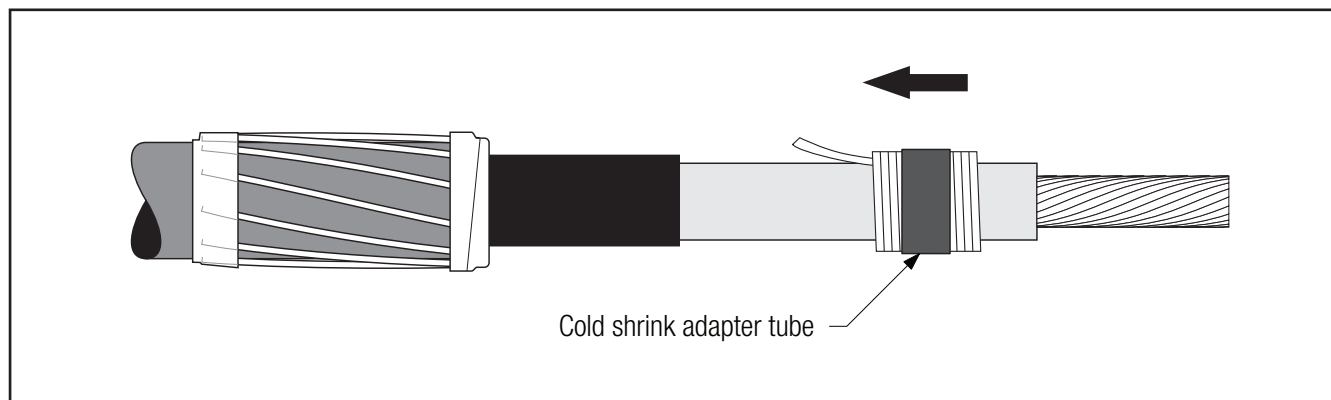

Figure 9
- 3.4 **For 350 and 500 kcmil copper connectors, or connectors with an O.D. between 0.80–1.04" (20,3–26,4 mm):** Park cold shrink adapter tube on cable insulation (Figure 9).